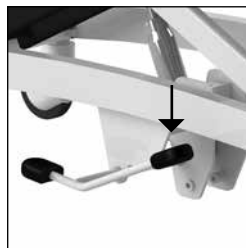

Figure 6 Moving upwards.
- The trolley is moved upwards by pressing the long part of the foot pedal slowly and evenly (*See figure 6*).